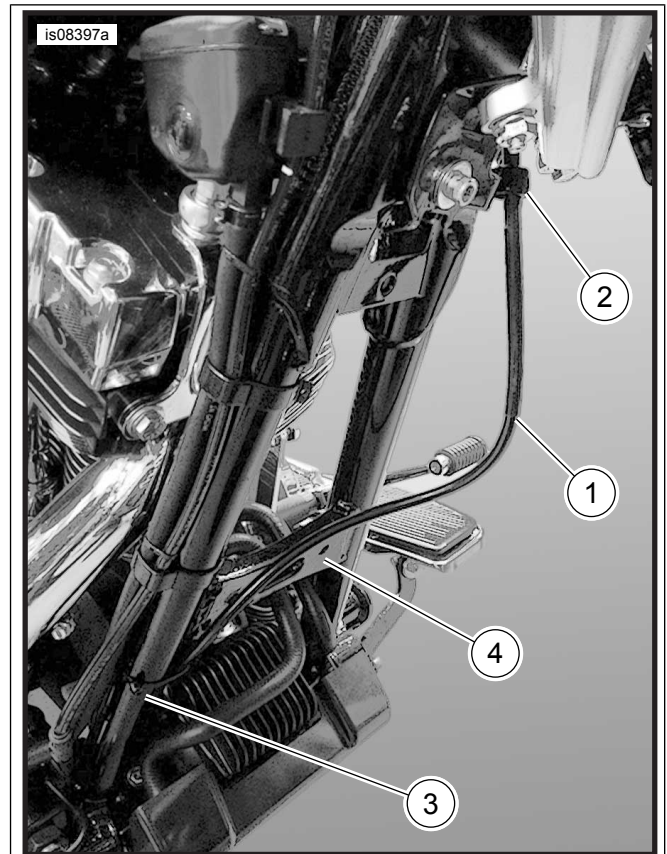

**Figure 4. Clamp Locations on Frame Downtube, Fairing Models**
4. See Figure 4 through Figure 8. Route clutch fluid line:
- a. **Fairing models:** See Figure 4. Secure line to downtube with two clamps removed earlier.